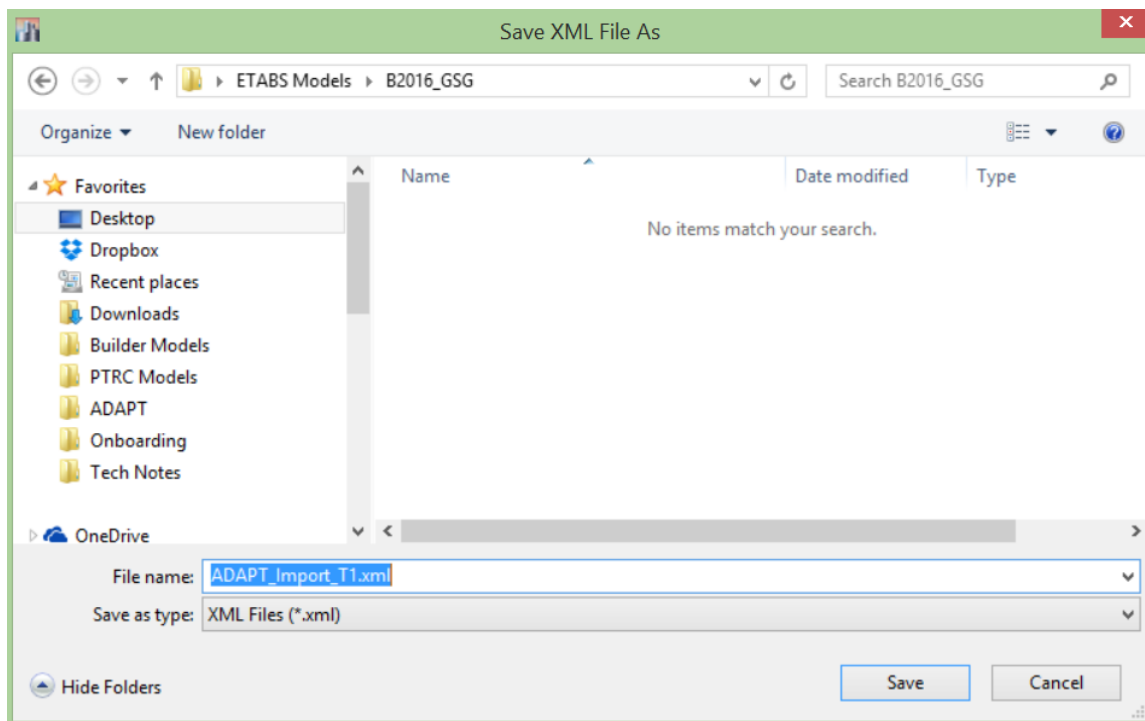

Figure 5 ETABS .XML File Save-As Dialogue Window
- In the *Save XML File As* dialogue box, select the location of the .XML file and name the file (**FIGURE 5**).